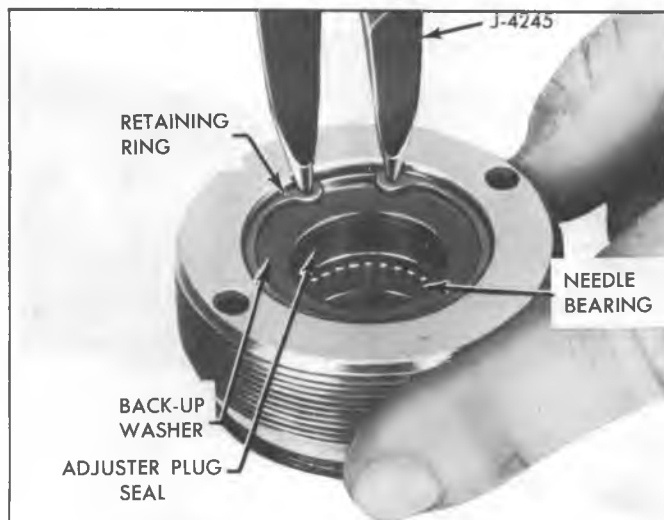

Fig. 21--Removing Adjuster Plug Seal Retaining Ring
2. If the oil seal ONLY is to be replaced, and not the bearing, install the adjuster plug loosely in the gear housing. Remove the retaining ring with Internal Pliers J-4245. Remove the seal back-up washer. With a screw driver, pry the oil seal from the bore of the adjuster plug, being careful not to score the needle bearing bore (fig. 21). Discard the oil seal.